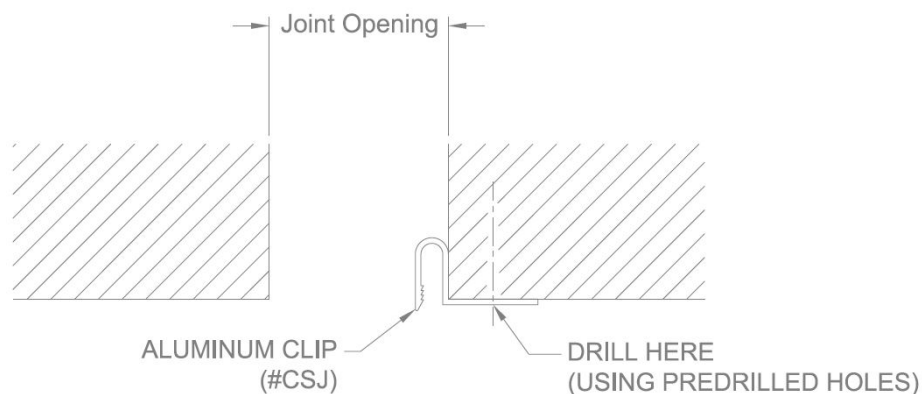

FIGURE 1
1. For all sizes, position aluminum clips (#CSJ) per the shop drawings. Install the clips on one side of the joint opening, spacing the clips approximately 24.00" on center. Clips must be aligned and plumb – use wood blocking if necessary. Using the clips as a template, mark and drill $\text{Ø}5/32$ " holes for $\text{Ø}3/16$ " anchors (by installer) if installing into concrete. For gypsum board assemblies, there is no need to predrill, attach clip base members using appropriate drywall screw (by installer) through gypsum board into steel studs. **See Figure 1.**